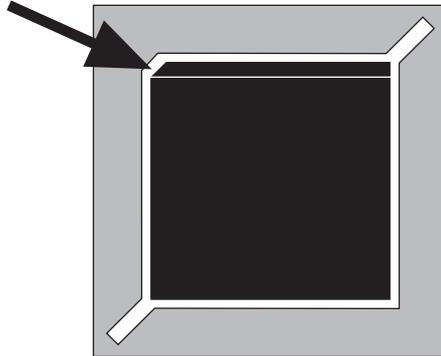

Figure 45: One corner of the chip define its orientation.
- Finally plug the new EPROM. Be careful about the orientation, given by a corner of the ROM, as showed in figure 45.